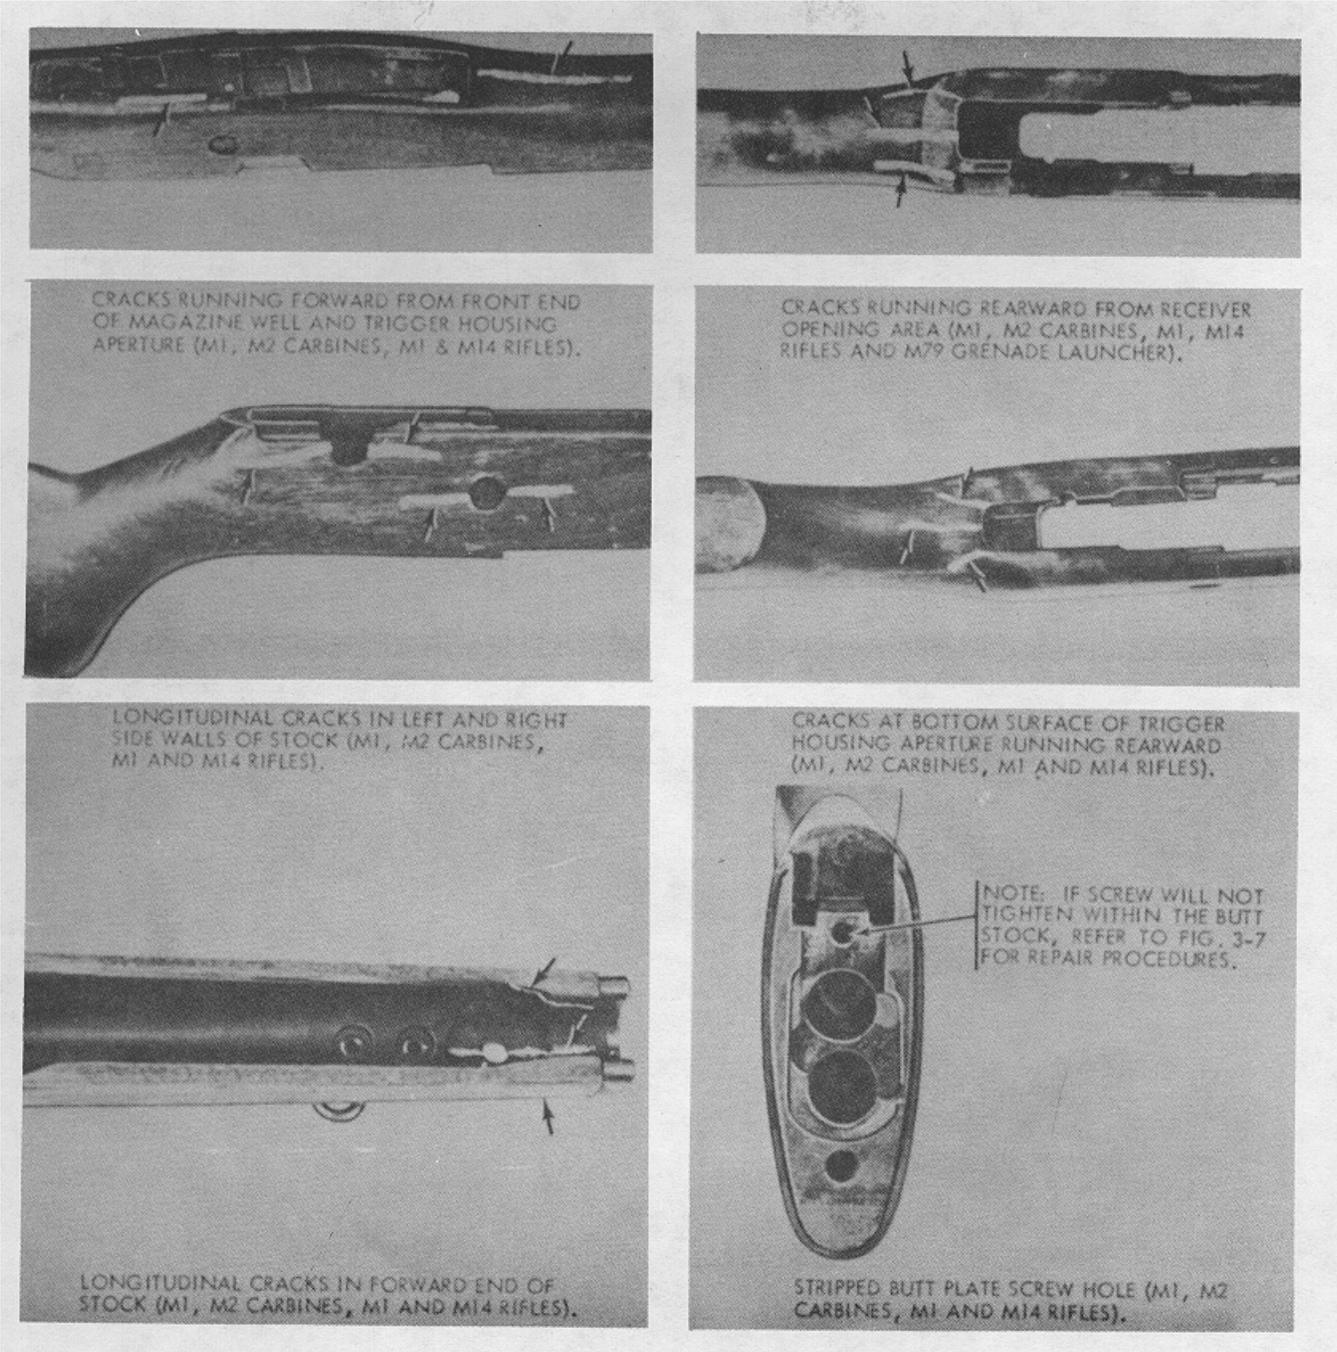

Figure 3-2. Types of repairable damage to wooden stocks. (1 of 2)
Refer to figures 3-2 and 3-3.
b. Refer to figures 3-2 and 3-3 to determine if screws can be used to repair component. (When epoxical adhesive and screws are both used, refer to paragraph 3-8c thru f.)